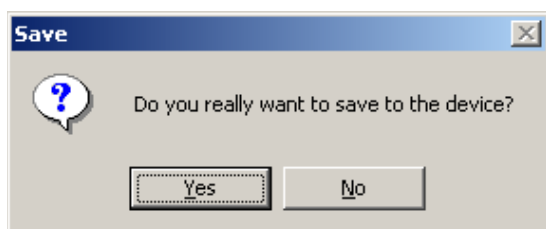

Figure 2-19 Comm Access Code Change Confirmation Screen
3. Select **Save**, IPScom will display a Comm Access Code change Confirmation Screen (Figure 2-19).
3. Select **Save**, IPScom will display a User Access Code change Confirmation Screen (Figure 2-19).